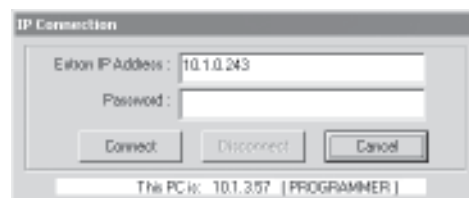

Figure 5-4 — Address and password entry
3. **If you selected IP [LAN] in step 2**, the IP connection window appears (figure 5-4). The window displays the last IP address that this computer was logged on to via the ISS/ISM Control Program. If no one has logged on to the ISM from this computer, enter the ISM IP address. If the address has not been changed, the factory-specified default is 192.168.254.254.